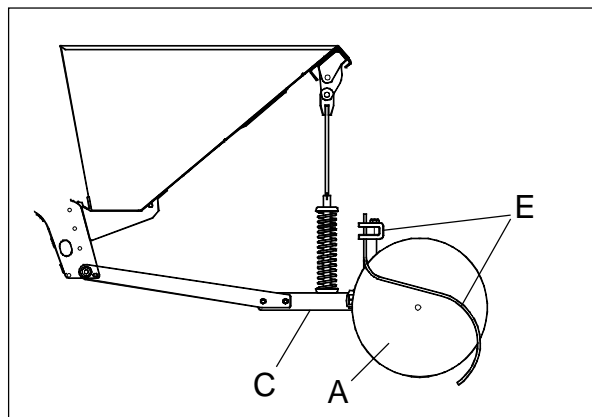

Fig. 23
Disc coverers 450mm (Fig. 23 & 24):
Track loosener (E) for disc coverers (Fig. 23 & 24):